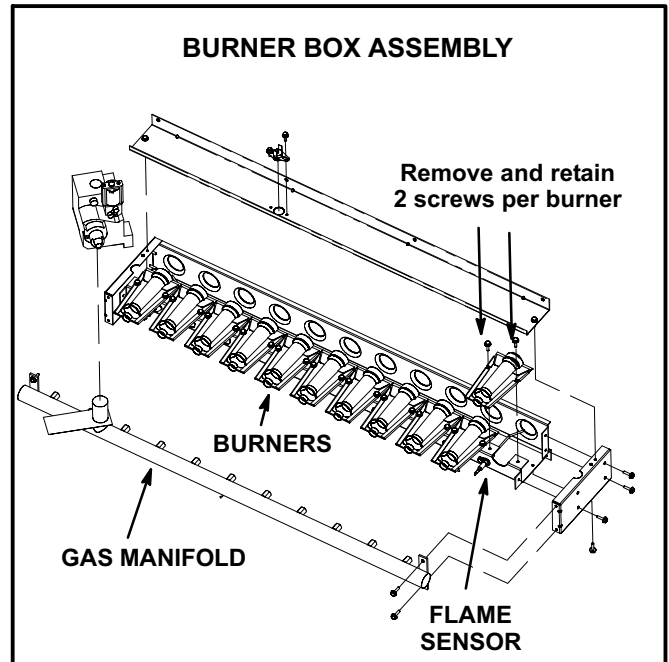

FIGURE 25
- Remove and retain two screws securing burners to burner support. See figure 25.